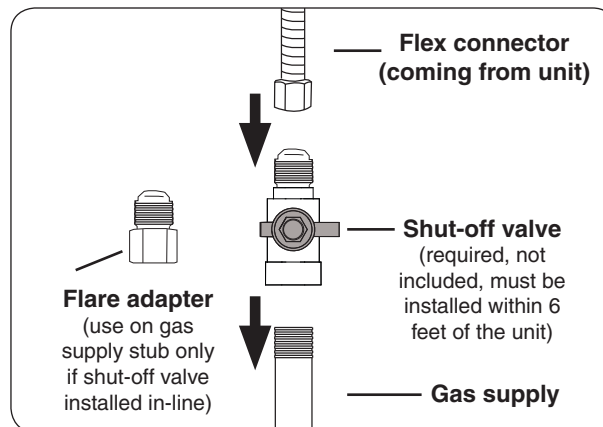

Fig. 18-2 Connecting to a gas line
- Connect the flex connector to the shut-off valve (see Fig. 18-2). Tighten securely.
- Install the supplied flare adapter to the gas supply using a pipe joint compound resistant to all gasses (see Fig. 18-2). Tighten securely.
- Connect the flex connector to the flare adapter (see Fig. 18-2). Tighten securely.